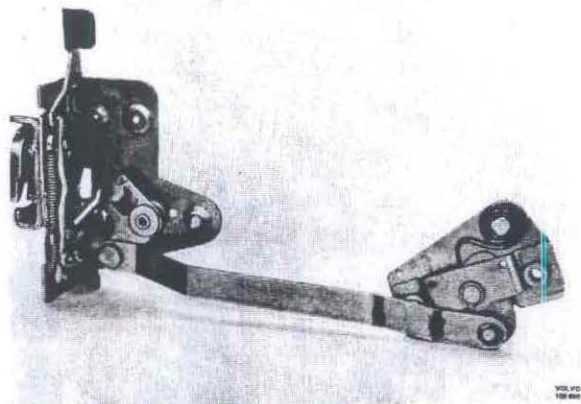
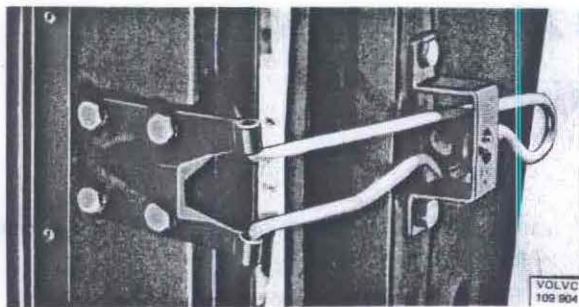

Fig. 83-1. Door lock (right-hand)
Fig. 83-4. Door stop
The door lock is shown on Figs. 83-1 and 83-3 and the door stop on Fig. 83-4.
Fig. 83-4 shows where the various parts are placed.
6. Hold the glass pressed against the window opening and carefully pull out the cord from the inside. The rubber seal should thereby fit into position, see Fig. 83-4. It may sometimes be necessary to adjust the position of the glass with the palm of the hand. If the cord is stiff to pull, then there is risk of damaging the sealing.